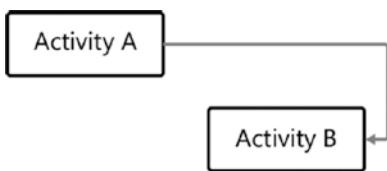

Figure 4-4. Finish-to-finish relationship
- *Finish-to-finish (FF)*: The successor activity cannot finish until the predecessor activity has finished. For example, you cannot finish writing the user manual for a piece of software until the testing is finished. Figure 4-4 depicts how this would be represented diagrammatically.